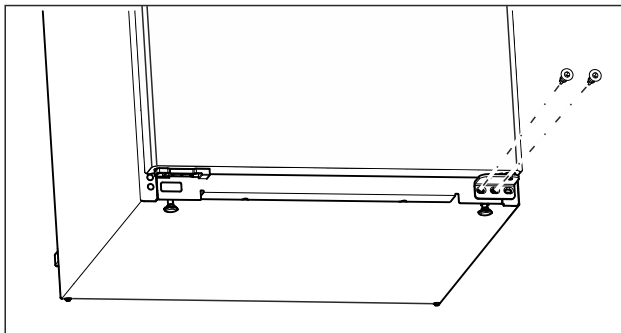

Fig. 6
- Unscrew the middle screw on the lower swap bearing block with a Torx 20 screwdriver. (see Fig. 6)
- Unscrew the inner screw on the lower swap bearing block with a Torx 20 screwdriver. (see Fig. 6)